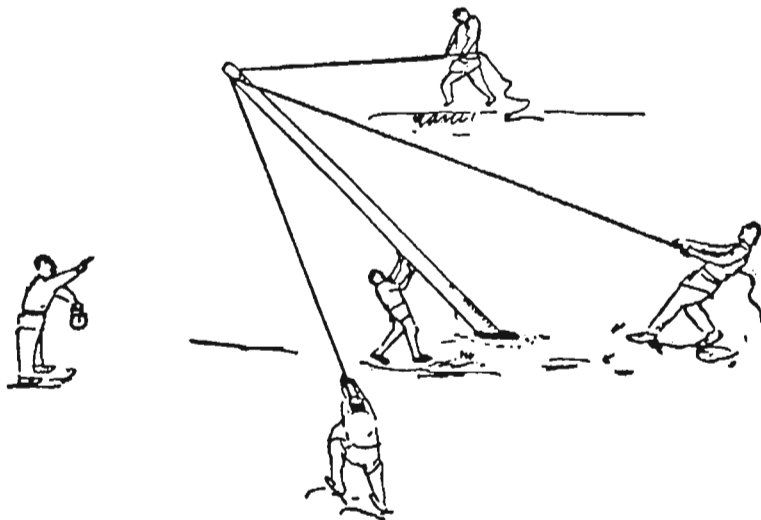

Figure 6.2: Erection of Poles
- Insert the pole base in the pit (Figure 6.2) ensuring that after erection the pole will be in line with the other poles and vertical; check verticality with a plumb bob